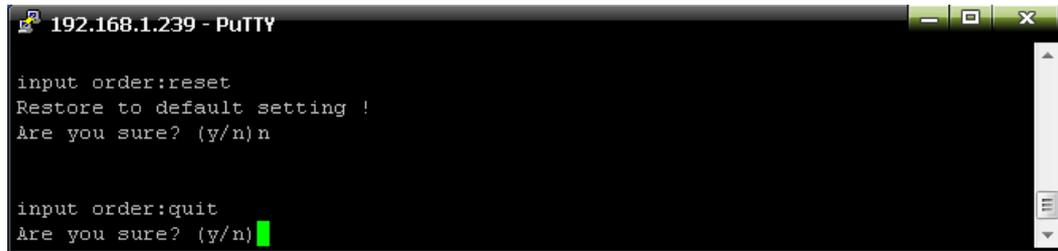

Figure 2-12
3.2.3.9: QUIT command to quit the telnet client as shown in figure 2-12